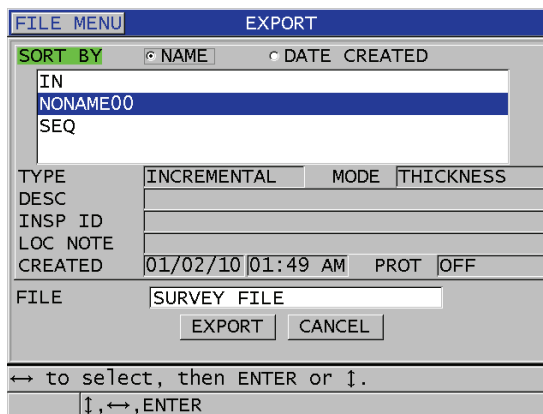

Figure 14-5 The EXPORT screen
5. In the **EXPORT** screen (see Figure 14-5 on page 250):